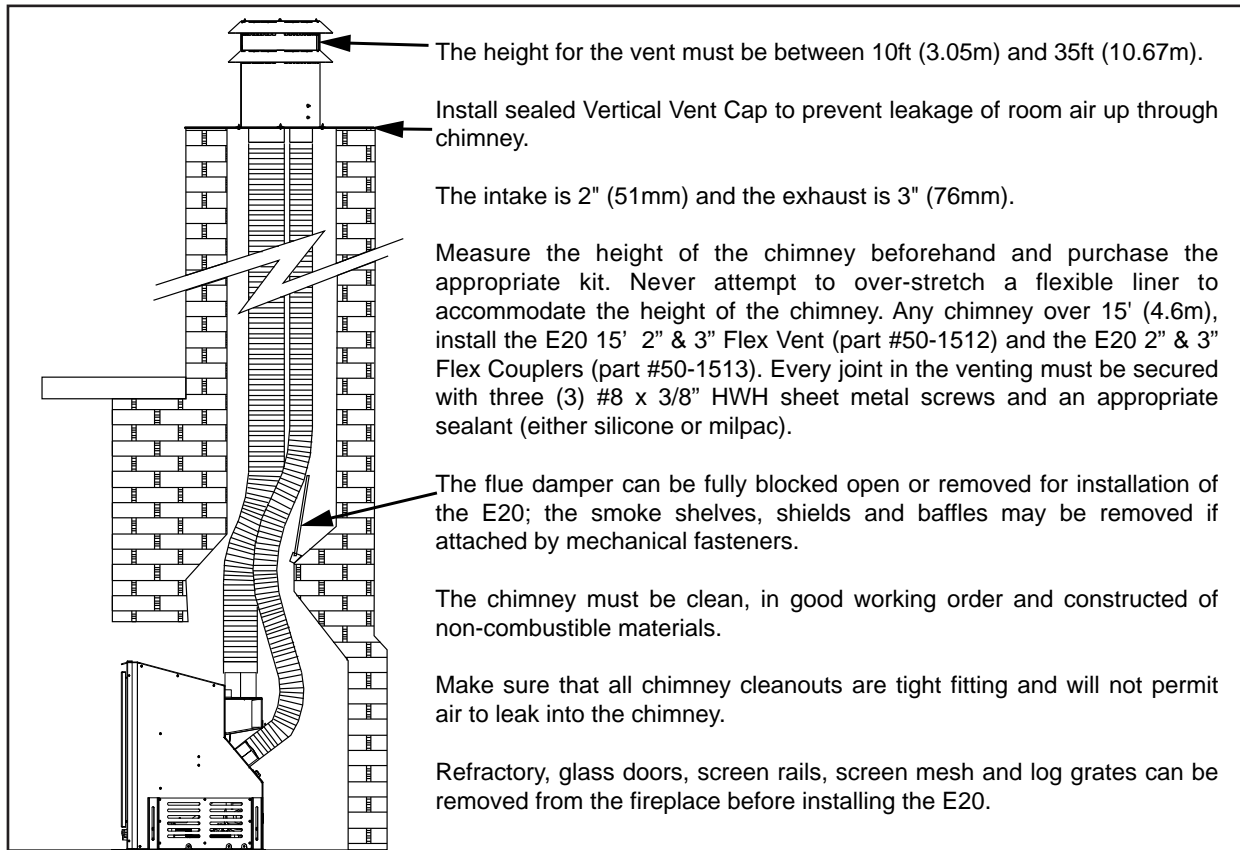

Figure 30: Installation of E20 DV
1. Plan your installation and clearances to combustibles. The E20 may be installed and vented into any solid fuel fireplace that has been installed in accordance with the National, Provincial/State and local building codes and has been constructed of non-combustible materials. Also refer to the INITIAL INSTALLATION - PREPARING YOUR E20 FOR INSTALLATION and CLEARANCES TO COMBUSTIBLES sections. Refer to Figure 30 throughout installation.